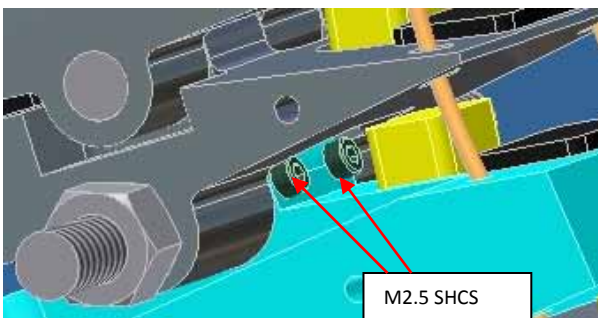

Figure 106 - Remove T1 Retaining Screws
11. Remove the two M2.5 SHCS that retain the T1 pin at the C7-T1 joint (Figure 106).